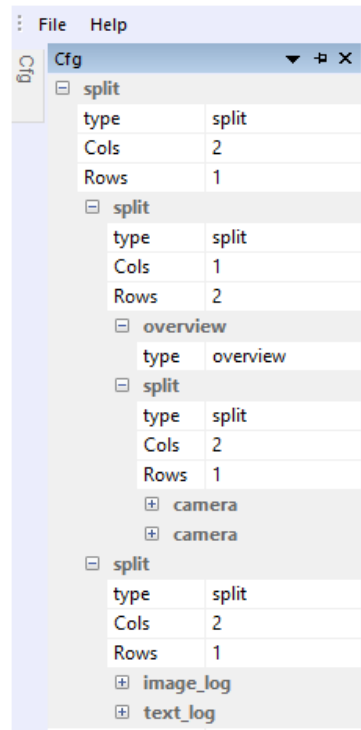

Fig. 2.5. Menu configuration «Cfg»
2. Open menu «Cfg» on the window left side (fig. 2.5). The number of rows can vary depending on your previous settings.